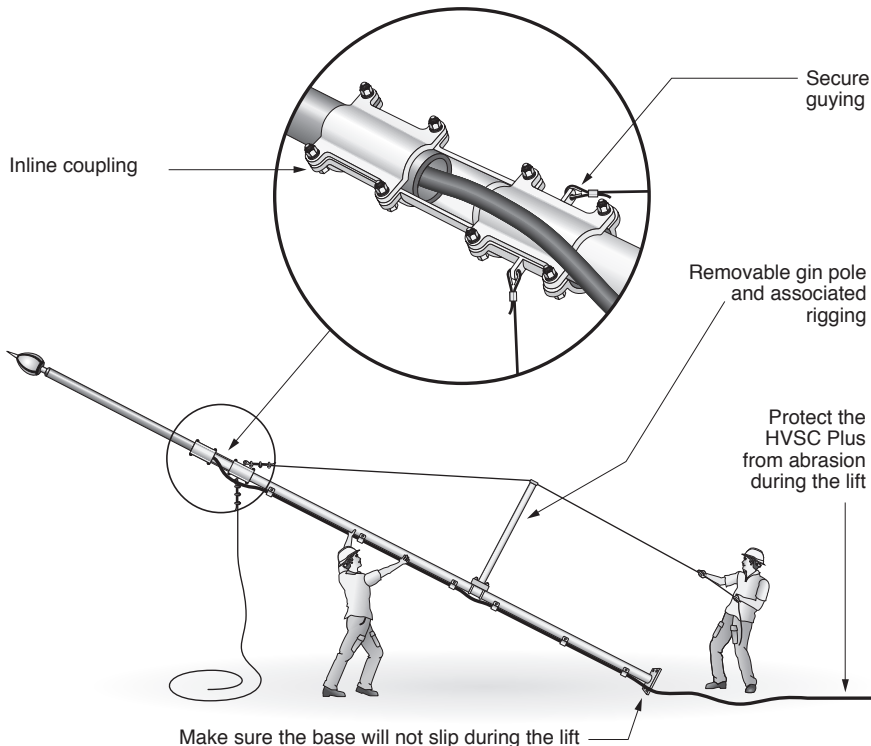

Figure 39.
- If required, fit the HVSC Plus downconductor through the side entry of the inline coupling and through the FRP mast. Refer to Figure 39 on page 42